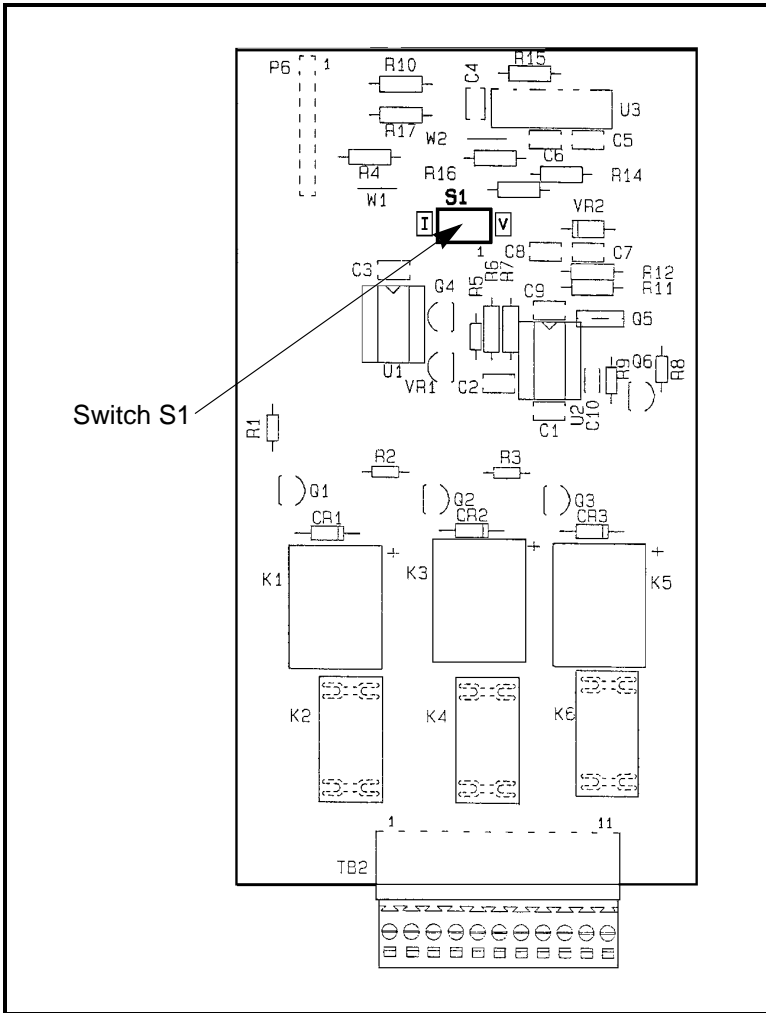

Figure 2-4: S1 Location on 703-1175 Output Board
The Series 35 has one recorder output, which is isolated. This output provides either a current or voltage signal, which is set using switch S1 on the output circuit board (see Figure 2-4 on page 2-19 for the location of S1).
3. Locate switch S1 on the output circuit board (see Figure 2-4 on page 2-19).